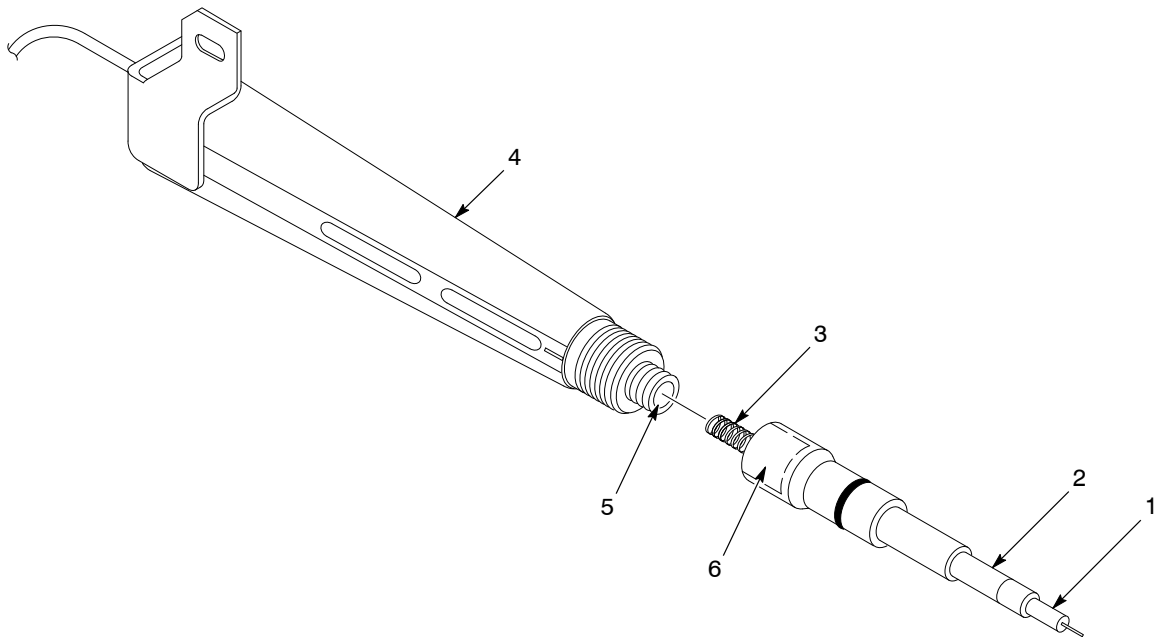

Figure 8 Contact Tip and Resistor Replacement
2. See Figure 8. Unscrew the damaged contact tip (1) from the end of the resistor probe (2).
2. See Figure 8. Unscrew the old resistor probe (2) from the multiplier (4). Clean the multiplier well (5).
4. Inject dielectric grease into the multiplier well (5) until it is completely full. Use the 3-cc applicator supplied with the kit.
5. Fill the new resistor spring (3) and the resistor probe cavity (6) completely with dielectric grease.
6. Unscrew the contact tip (1) from the resistor probe (2).